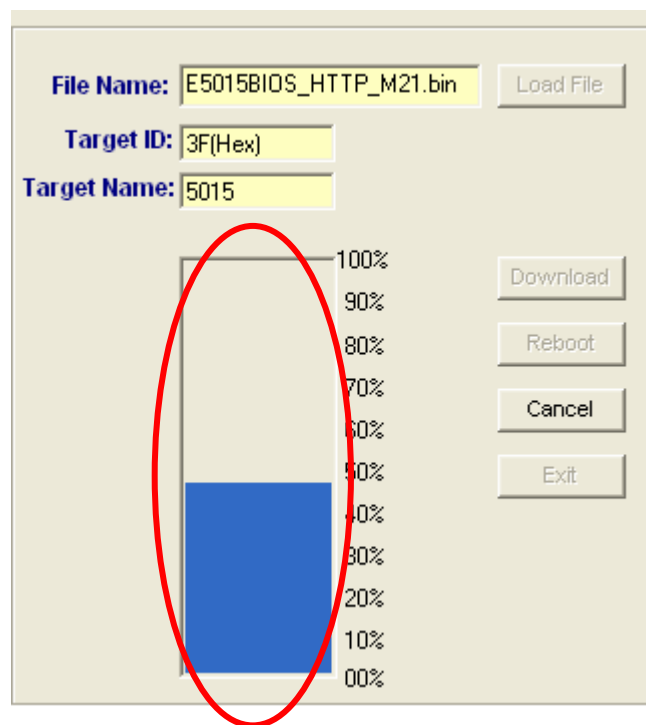

Figure 10
9. The progress bar shows the progress of updating firmware(see Figure 10)